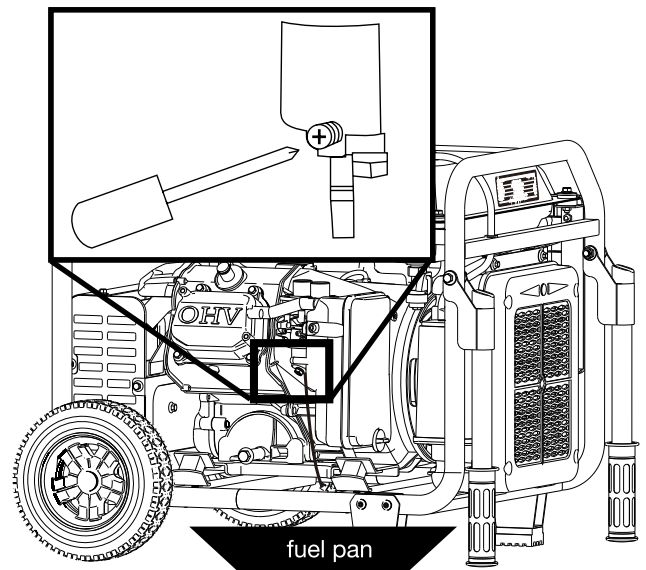

Figure 13: Loosen float bowl screw
3. Loosen the float bowl drain screw (see Figure 13) until fuel is seen draining from the float bowl.